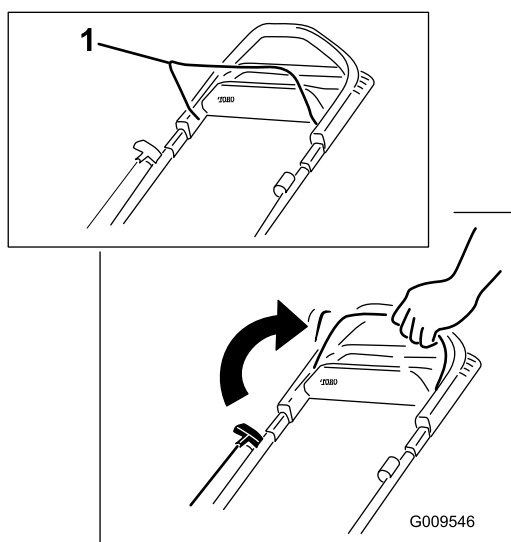

Figure 14
1. Hold the blade-control bar against the handle (Figure 14).
1. Lift up the rear deflector (Figure 14).